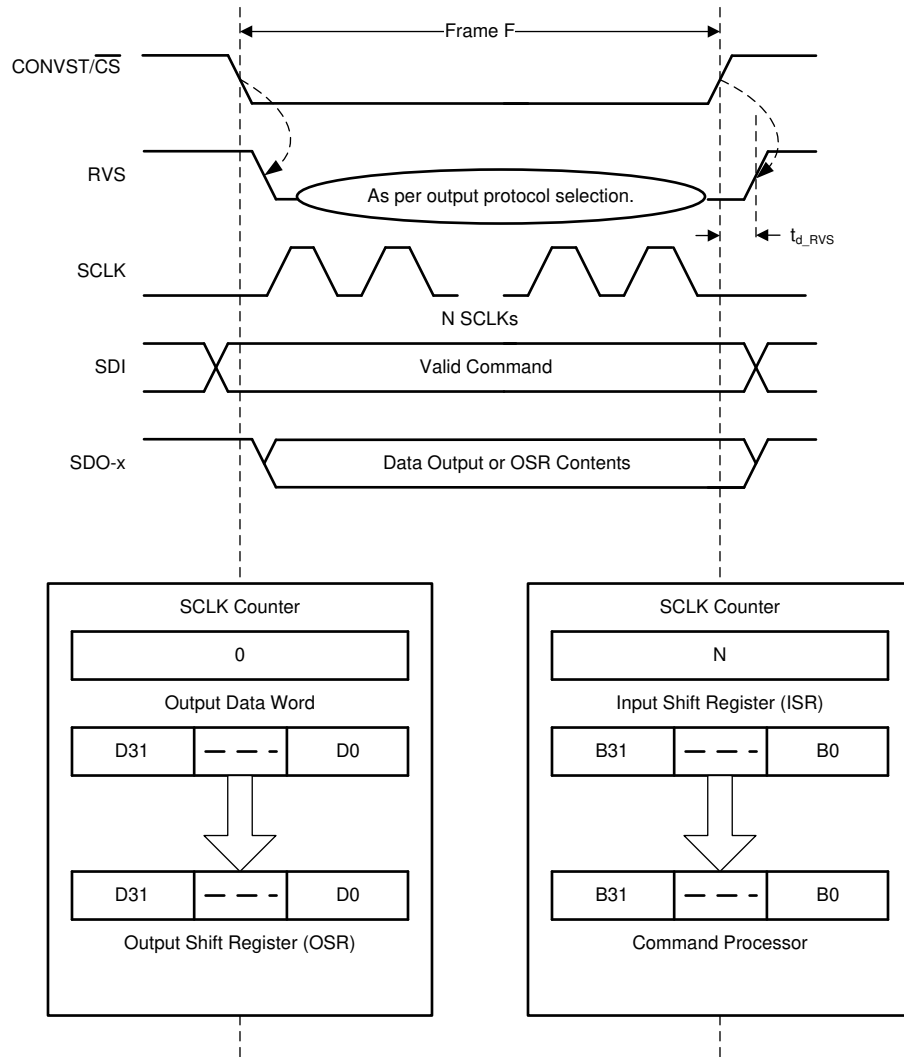

Figure 7-25. Data Transfer Frame
A data transfer frame between the device and the host controller begins at the falling edge of the CONVST/ $\overline{\text{CS}}$ pin and ends when the device starts conversion at the subsequent rising edge. The host controller can initiate a data transfer frame by bringing the CONVST/ $\overline{\text{CS}}$ signal low (as shown in Figure 7-25) after the end of the CONV phase, as described in the CONV State section.
- The device takes control of the data bus. As illustrated in Figure 7-25, the contents of the output data word are loaded into the 32-bit output shift register (OSR).
- As illustrated in Figure 7-25, the contents of the input shift register are transferred to the command processor for decoding and further action.